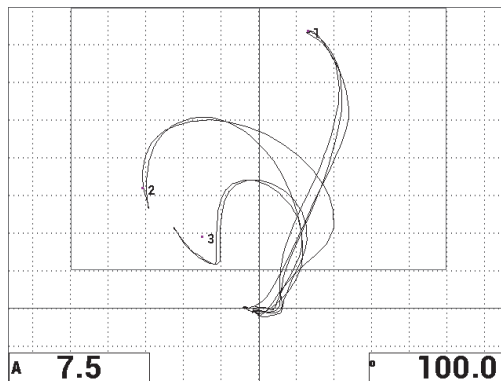

Figure 6-52 The second scan over the disbands
14. Press the FULL NEXT key (👉) to display the full screen, and then slowly scan over the disbands and ensure that the dots still match the signal (see Figure 6-52 on page 166).